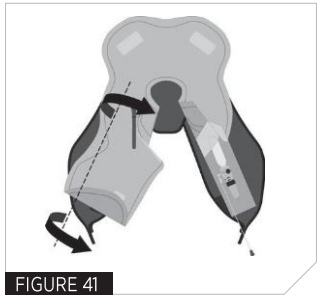

FIGURE 41
6. Fold outside edge in towards the centre of the bladder along fold line 6 (Fig 41).